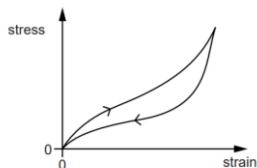

Fig. 8.1
Fig. 8.1 shows a graph of stress against strain for rubber.
- Use Fig. 8.1 to describe the main physical properties of this material.